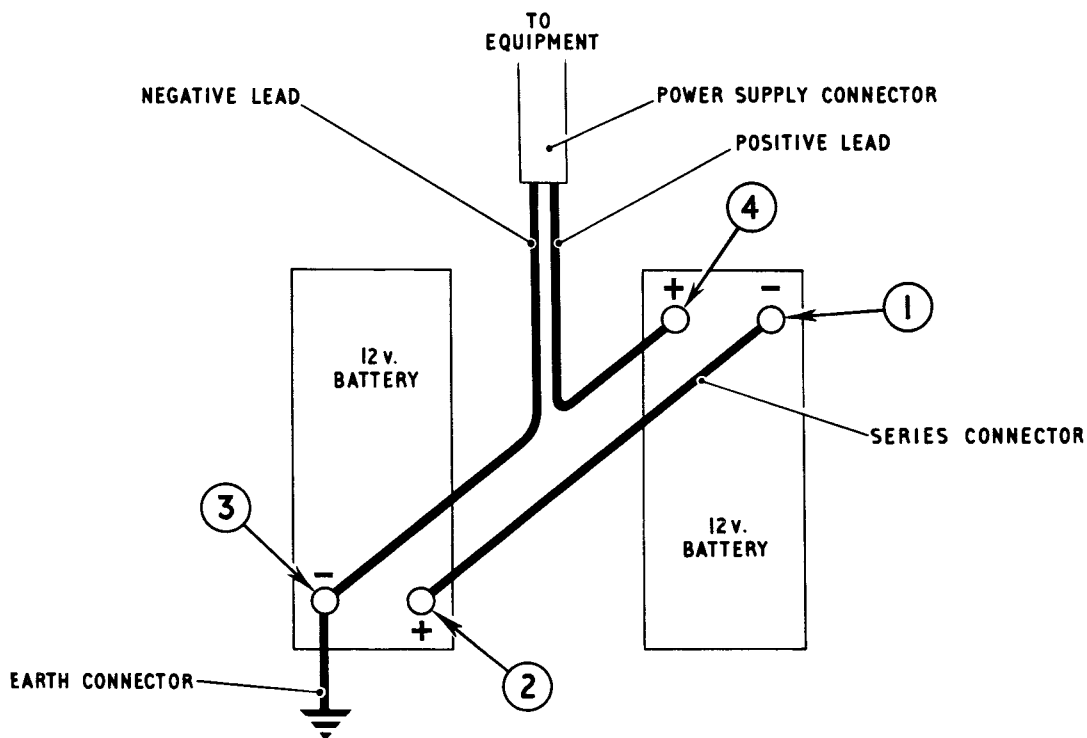

FIG. 27 METHOD OF FITTING CONNECTORS TO TWO BATTERIES
(2) Battery connections on all FFR vehicles except Rover Mk. 8 and 9 FFR
- (b) First fit the series connector from the negative terminal on one battery (1 in fig. 27) to the positive terminal on the other battery (2 in fig. 27)
- (c) Fit the earth connector to the vacant negative terminal. (3 in fig. 27).
- (d) Then fit the negative lead of the power supply connector to the same terminal as the earth connector. (3 in fig. 27).
- (e) Finally fit the positive lead of the power supply connector to the vacant positive terminal. (4 in fig. 27).
- (3) Battery connections on Rover Mk. 8 and 9 FFR